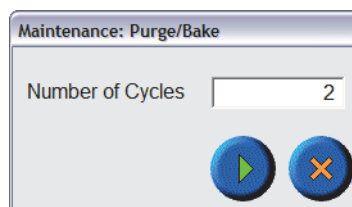

Figure 6.37. Setting the Number of Purge/Bake Cycles
13. From the Maintenance screen, run the Purge/Bake procedure through 2 cycles to remove any remaining methanol from the system (refer to Figure 6.37).